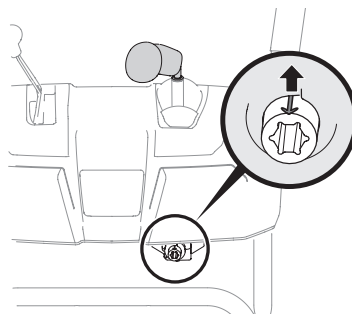

Figure 2-27
5. Rotate joystick to one o'clock position so that indicator arrow on pinion gear below control panel faces upward. See Figure 2-27.